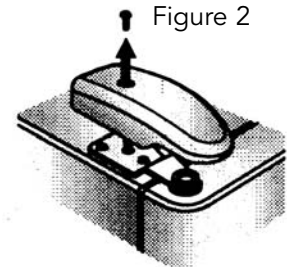

Figure 2
5. Unscrew 5/16" hex head screws from top hinges. (See figure 2.)
2. Remove plastic cap from water valve inlet port. See figure 2.